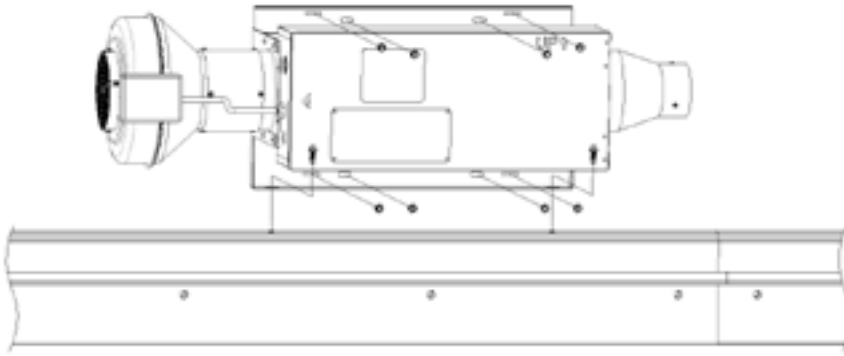

Figure 3: Mount Center Duct Assembly on Center of Header/Rail Assembly
3. Position heater & bracket assembly together on top of header so that mounting slots in heater bracket align with mounting holes in top flange of header, with the back of the mounting bracket flush against the wall. (Figure 3)
4. Add fasteners to attach heater & bracket assembly to top of header. (ASI supplied hardware) (Figure 3)
5. Add fasteners to attach heater bracket to wall. (Installer supplied hardware) (Figure 3)